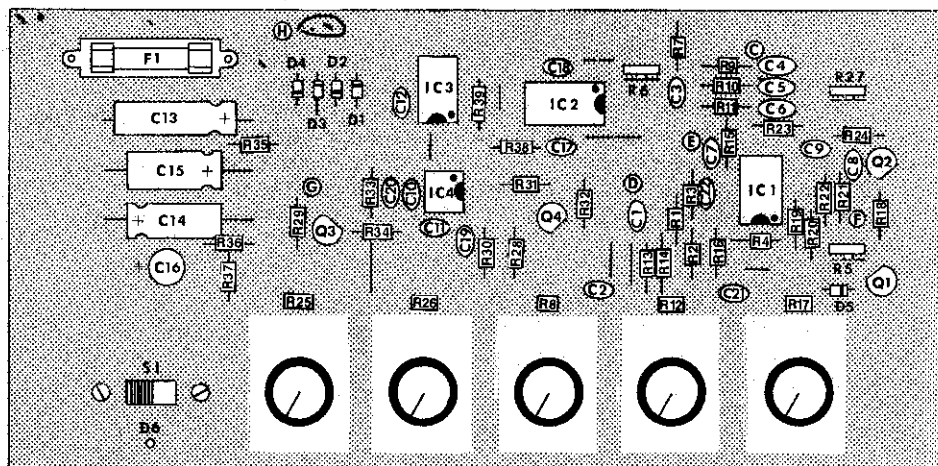

Figure 1 - Circuit Board Parts Placement
- () Prepare the circuit board for assembly by thoroughly cleaning the conductor side with a scouring cleanser. Rinse the board with clear water and dry completely. Solder each of the fixed resistors in place following the parts placement designators printed on the circuit board and the assembly drawing figure 1. Note that the fixed resistors are non-polarized and may be mounted with either of their two leads in either of the holes provided. Cinch the resistors in place prior to soldering by putting their leads through the holes and pushing them firmly against the board. On the conductor side of the circuit board bend the leads outward to about a 45° angle. Clip off each lead flush with the solder joint as the joint is made. **SAVE THE EXCESS CLIPPED OFF LEADS FOR USE AS JUMPERS IN LATER STEPS.**
- () Using the excess wire clipped during resistor installation, form and install the eight jumpers as indicated by the solid lines in figure 1 and printed on the circuit board.
Install the transistors. Orient as illustrated in figure 1 and the parts placement designators printed on the circuit board. All semiconductors are heat sensitive and may be damaged if allowed to get too hot while soldering. To be on the safe side, heat sink each transistor lead during the soldering operation by grasping it with a pair of needle nose pliers at a point between the circuit board and the body of the transistor.